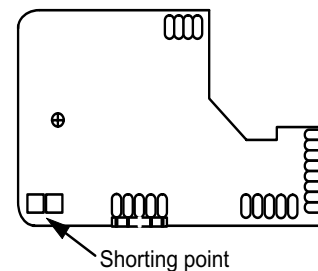

Figure 4. APC PCB
5.3 To prevent electrostatic damage to the mechanism, solder together the two points indicated in Figure 4.
6.4 Remove the solder from the shorted points shown in Figure 4.